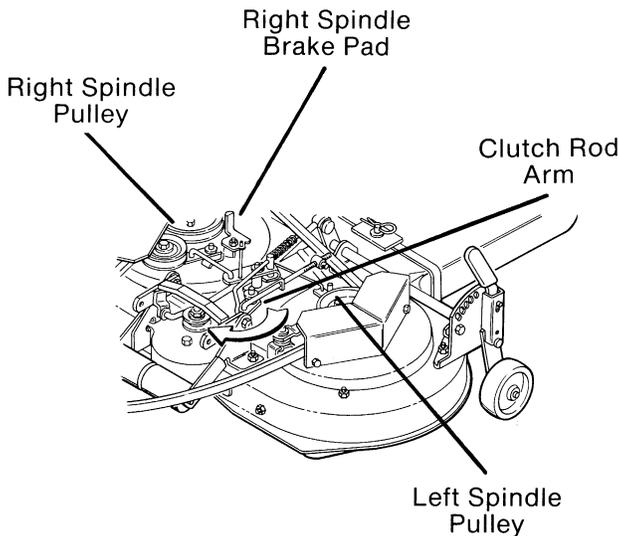

FIG. 2
- a. Turn clutch rod arm (Fig. 2) clockwise, then all the way counterclockwise. Both brake pads should move **away** from the two outer pulleys.
- C. Turn clutch rod arm clockwise as far as it will go, as shown by the arrow in (Fig. 2).
- M. Lower the mower deck with the attachment lift lever for easier access to set P.T.O. engagement rod. Be sure clutch rod arm is turned clockwise as far as it will go. (Fig. 2)